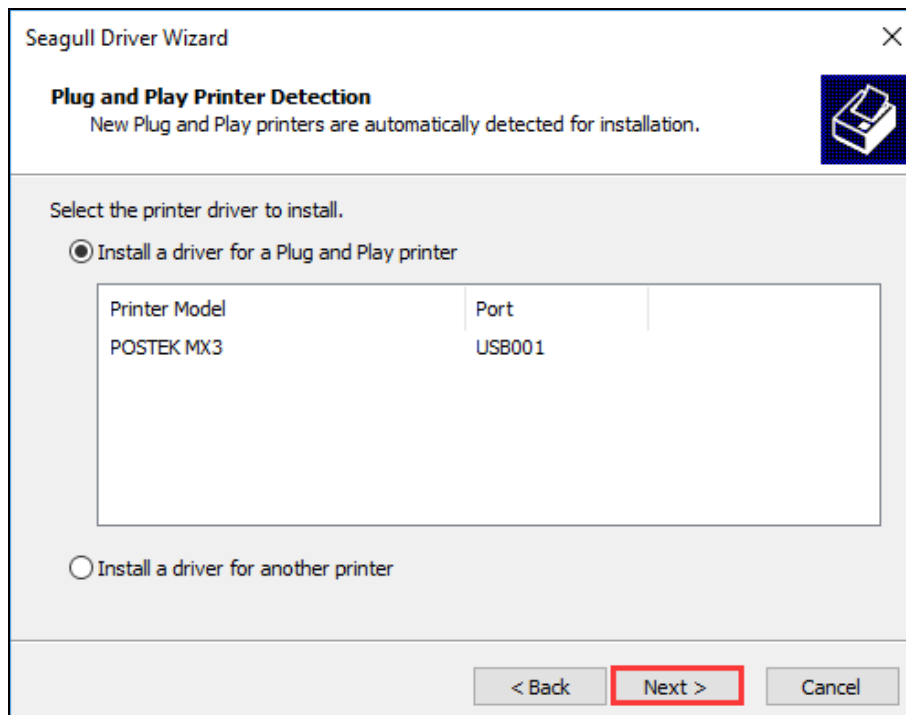

Figure 2-36 Printer Detected
7. The connected printer will be detected, click “Next”, as shown in Figure 2-36.